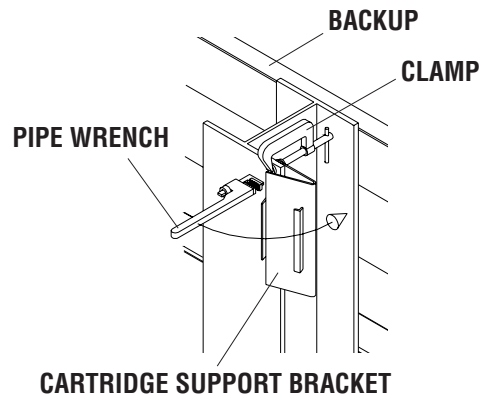

Figure 81
- B. Clamp Cartridge Support Bracket to backup and begin bending using pipe wrench as shown in Figure 81.